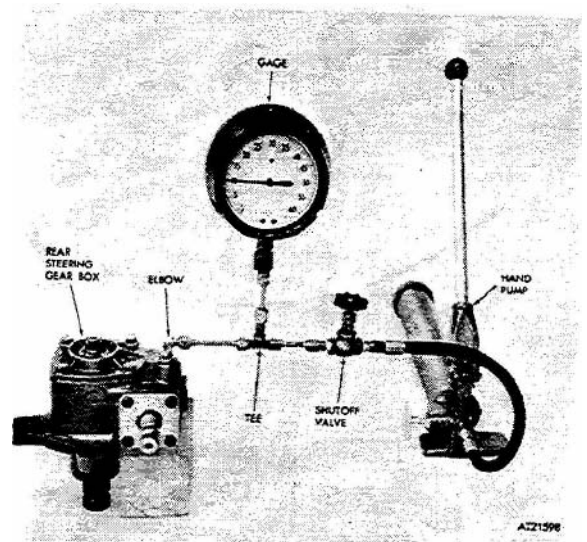

Figure 3-225. Pressure testing rear steering gear box.
g. *Test.* Using suitable test equipment apply 10 PSI to steering gear box for five minutes. There shall be no leakage or seepage (fig 3-225).